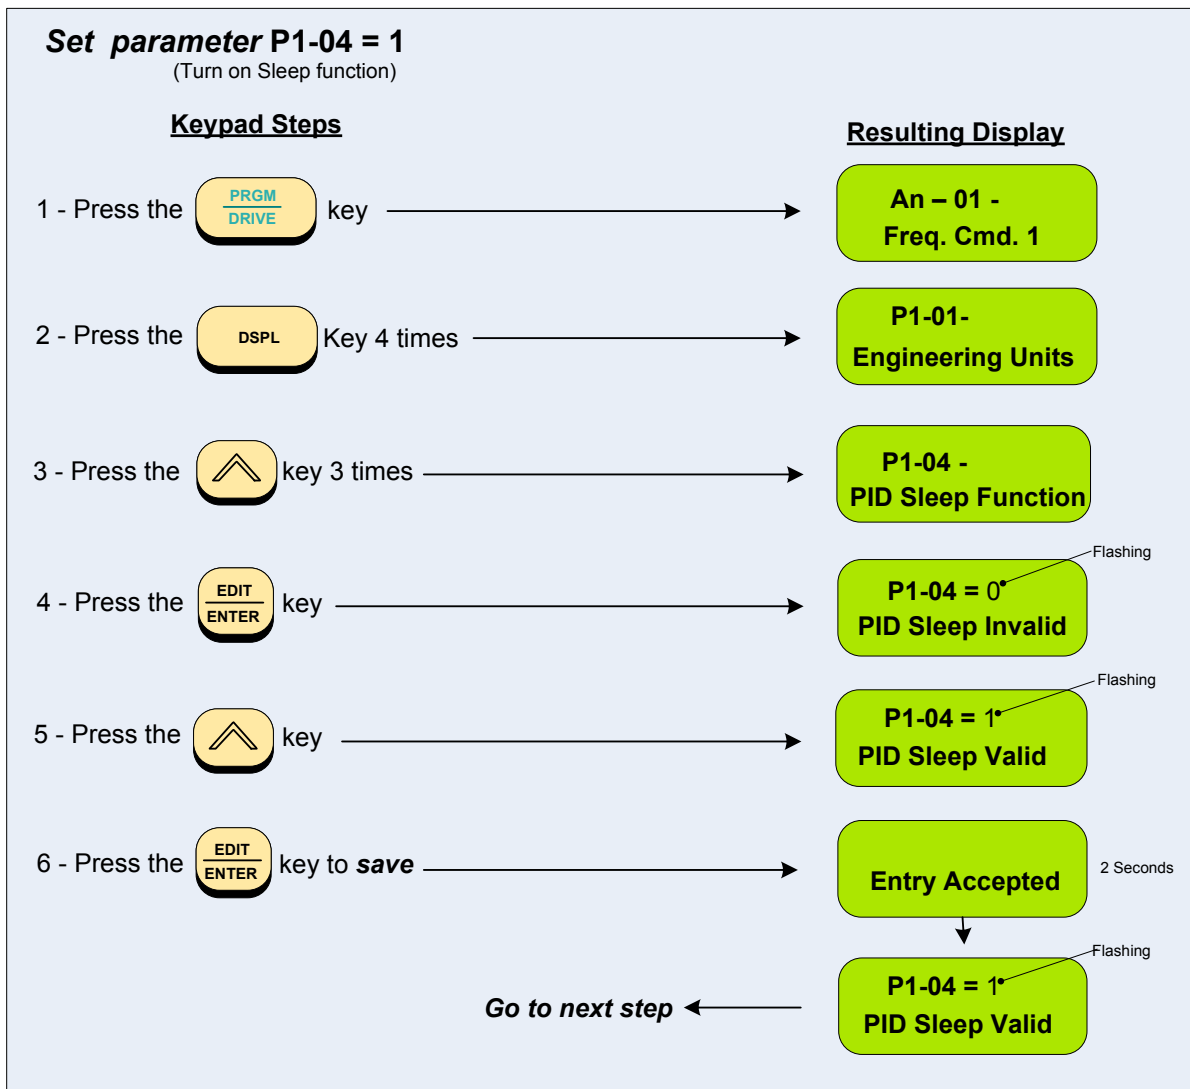

**Fig. 2.7.1 PID Sleep Function**
- The *PID Sleep* function is turned on by parameter (P1-04) when set to (=1). This allows the system to *turn off* the PID and thus the inverter output so that the pump does not run when the system level (PSI) is above the set-point. This *sleep start level* is set by parameter (P2-01) in a range from 0 – 100% of the maximum inverter output. When the system level drops below a value (*the units are selected by Step 9*) set by parameter (P2-03), the *sleep wakeup level*, the output of the inverter will turn on. Parameters (P2-02) and (P2-04) provide delay times in seconds for *sleep start level* and *sleep wakeup level* respectively. Fig. 2.7.1 below will serve to illustrate this.